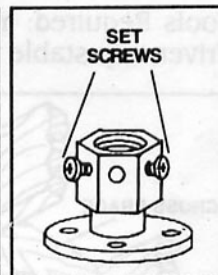

FIG. 6
Step 2. Loosen the two set screws in the top coupling of the motor assembly. (Fig. 6)